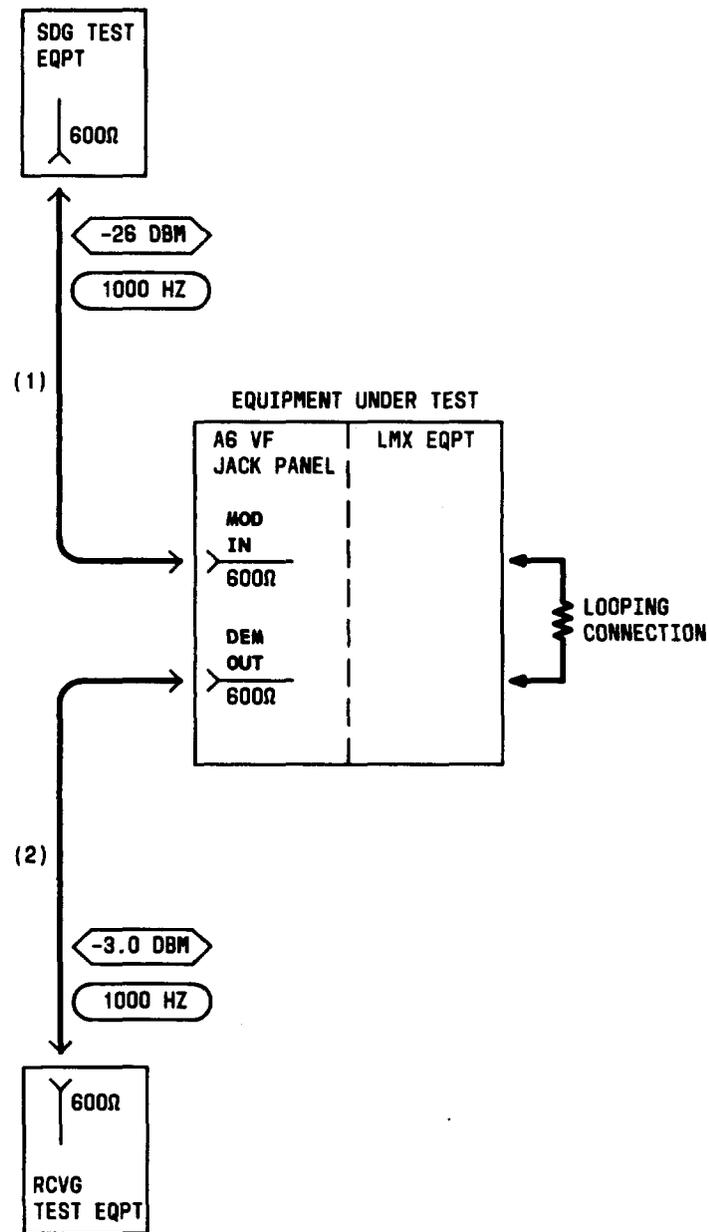

Fig. 9—Patching Diagram—Preparation—Equal-Level Looping
- 5 Connect the STE to the MOD IN jack for Channel 1 of the channel bank under test [patch (1), Fig. 9].
- 6 Connect the RTE to the DEM OUT jack for the channel under test [patch (2), Fig. 9].
- 8 Remove patches (1) and (2), Fig. 9.